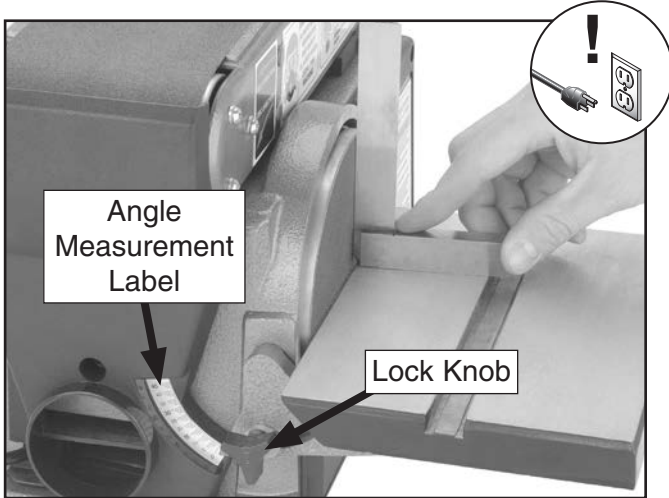

Figure 12. Squaring disc table.
11. Using a try square or machinist's square, set one edge on table surface and the other against disc face, as shown in **Figure 12**.